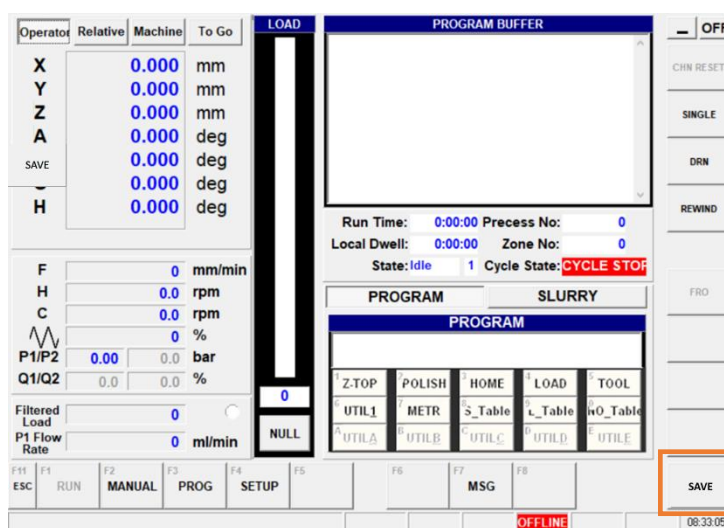

Figure 31 - Main GUI screen - Setup
9. Press the “Setup” button. See (Figure 31 - Main GUI screen - Setup).